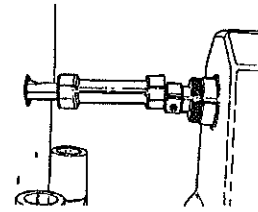
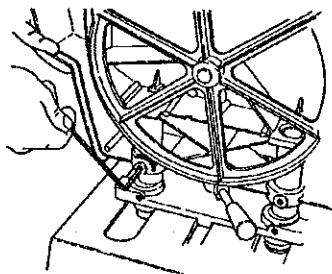
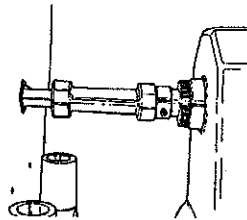
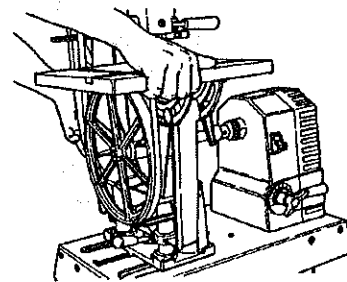

Fig.B-9
Fig.B-12
Fig.B-11
Fig.B-10
10. Typical vertical misalignment is shown in Fig.B-9. After you have horizontally aligned the Bandsaw to the drive shaft hub (31), lift the Bandsaw (see Fig.B-10) until the coupler vertically aligns with the drive shaft hub, as in Fig.B-11. When they are vertically aligned, tighten the Bandsaw tube setscrews. See Fig.B-12. Recheck the vertical alignment. If it is off, re-do it.